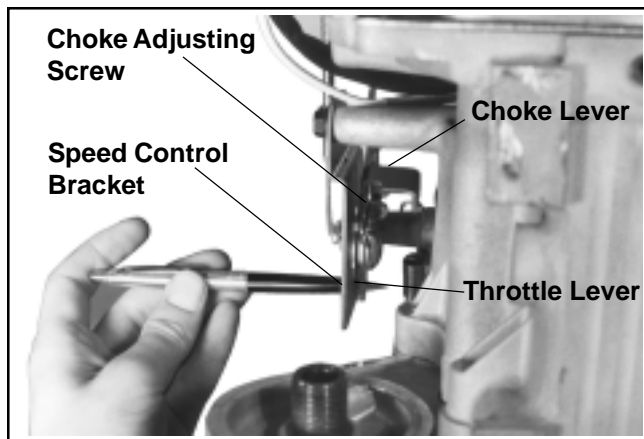

Figure 5-21. Aligning Holes in Speed Control Bracket and Throttle Lever.
- Align the hole in the throttle lever with the hole in the speed control bracket by inserting a pencil or 6.35 mm (1/4 in.) drill bit. See Figure 5-21.